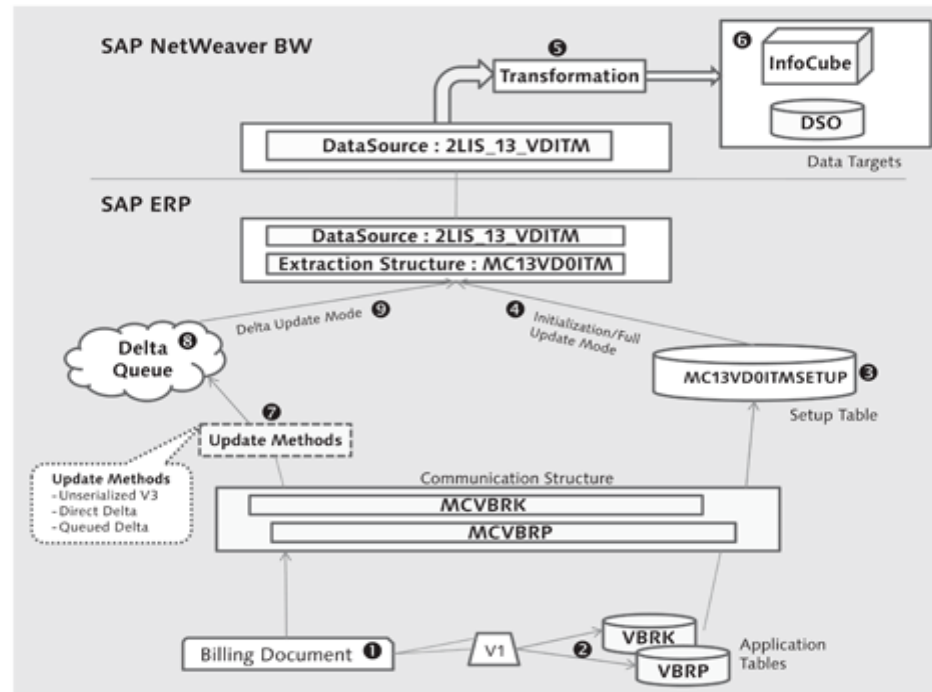

Figure 8.3 Logistics Cockpit Overview
SAP ERP has a number of Logistics (LO) applications, so SAP provides a number of DataSources that are related to Logistics. These DataSources require special attention because their extraction follows a well-defined process that uses a special framework: the *Logistics Cockpit*. Figure 8.3 gives an overview of the Logistics Cockpit.
8.3. Each of these activities results in addition, modification, or reduction to the multiple billing documents stored in the billing application tables (VBRK and VBRP in ② of Figure 8.3).
cal data, the two sets of data are distinguished using a process called *initialization*, which sets a point of reference for the historical data and also gives the option to load this historical data to SAP NetWeaver BW. To use the delta capability of the DataSource, this process of initialization (❹ of Figure 8.3) must be carried out. Any new data generated after an initialization is identified as *delta data*. Next we discuss the steps involved in this process.
To move historical data from the SAP ERP system to the SAP NetWeaver BW system, you must fill up the setup tables (i.e., copy the historical data based on the selection condition from the application tables, and replicate it in the setup tables) in the SAP ERP system (❺ of Figure 8.3). The data in the setup tables is read either during the initialization process or during the full update mode. The setup tables are filled for the entire application component, not for individual DataSources; you use selection conditions to filter the relevant data from underlying application tables.
NetWeaver BW, after the InfoPackage is executed in delta mode (⑧ of Figure 8.3). There are three different update methods for processing this data (⑦, ⑧, and ⑨):